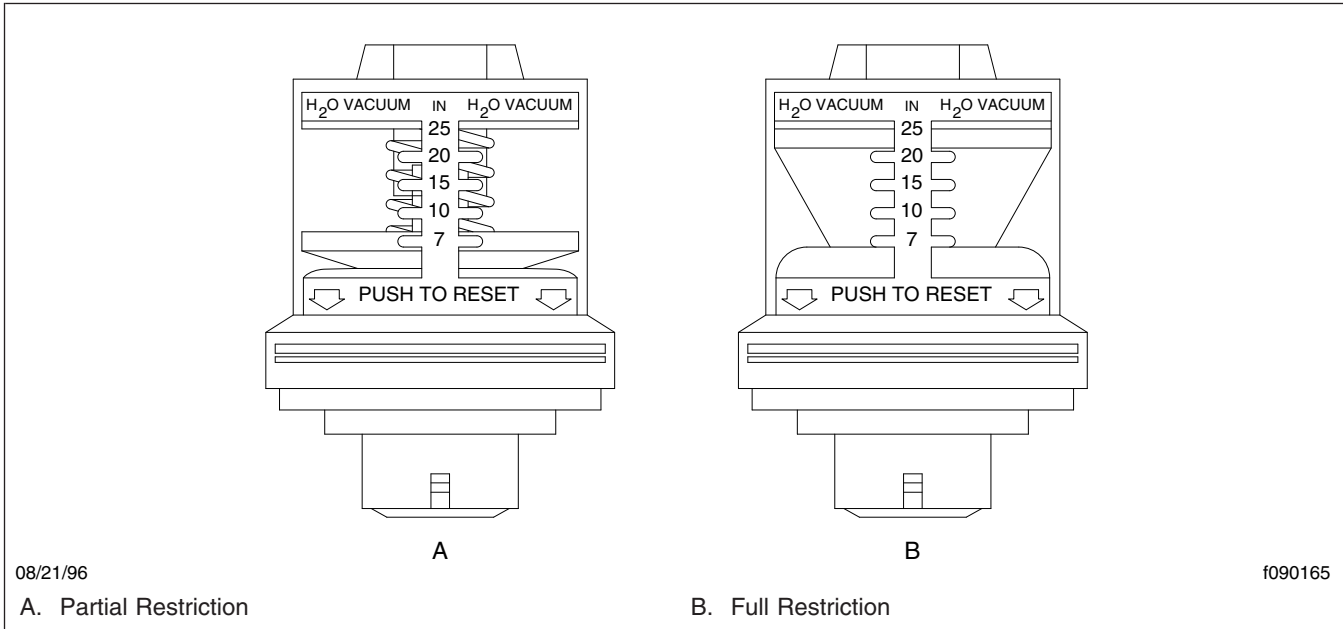
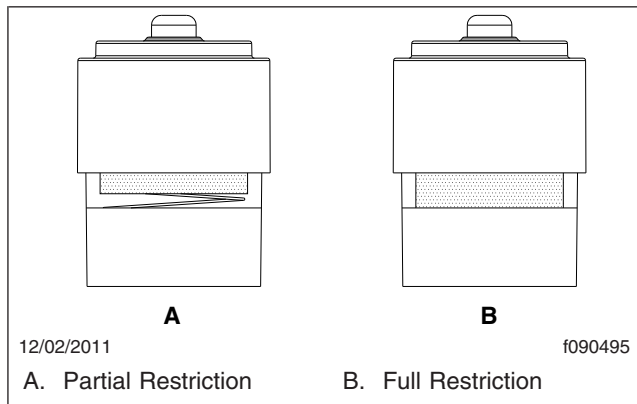

Fig. 1, Air Restriction Indicator, Diesel Engines
Fig. 2, Air Restriction Indicator, Propane Engines
Engine damage can occur if the air intake system is not properly maintained. Use the air intake restriction indicator to check for air intake system damage or leaks. See **Fig. 1** and **Fig. 2**. Make sure the engine is off and note the existing reading on the indicator. Reset the indicator by pushing it down. See **Fig. 1** and **Fig. 2**. Start the engine and take a short test drive. Check the indicator again and note the level of restriction on the indicator. A decrease from the previous level of restriction or a very low air restriction indicator reading (0 to 4 inH₂O) could indicate an air intake system problem such as a damaged air filter, loose or disconnected air intake piping, or a disconnected or damaged air restriction indicator.
7. Use the air intake restriction indicator to check for air intake system damage or leaks. See Fig. 1 and Fig. 2. Make sure the engine is off and note the existing reading on the indicator. Reset the indicator by pushing it down. See Fig. 1 and Fig. 2. Start the engine and take a short test drive. Check the indicator again and note the level of restriction on the indicator. A decrease from the previous level of restriction or a very low air restriction indicator reading (0 to 4 inH₂O) could indicate an air intake system problem such as a damaged air filter, loose or disconnected air intake piping, or a disconnected or damaged air restriction indicator.